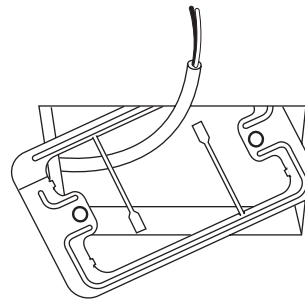

Fig. 1-234
- (1) Remove the cover plate by inserting a flathead screwdriver into the notch in the lower section and prying it off.
- (2) Cut out a section (3-3/4"×2-1/32") on the ceiling using the paper pattern (supplied) as a guide.
- (3) Run the wire through the mounting carrier and insert into the installation hole as shown in Fig. 1-234.